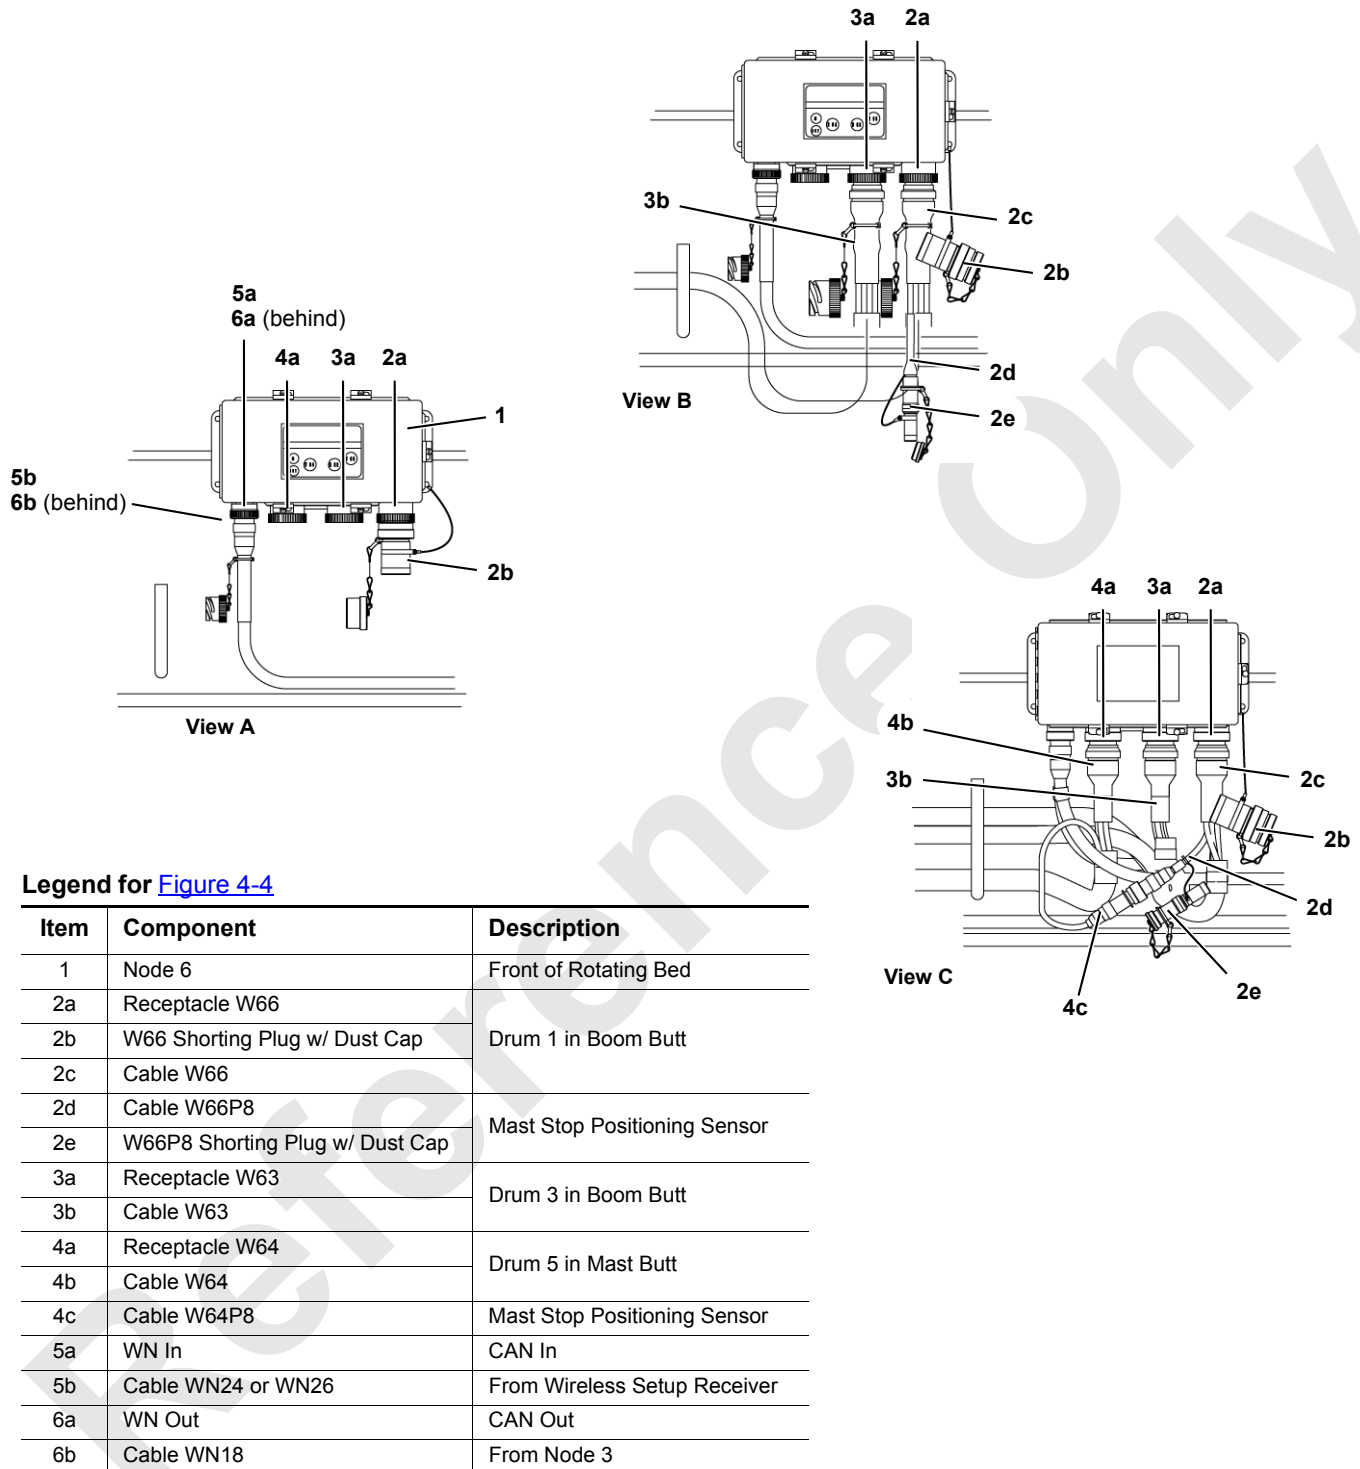

FIGURE 4-4
8. Remove protective caps from five hydraulic hoses (9, View D) on mast butt and from five couplers (10) on rotating bed. **Thoroughly clean couplers.**
**NOTE** For Node-6 electrical connections with Mast Stop Limit Switch, reference Figure 4-4 for cranes with software version M002066 or newer.
See Figure 4-4 for the following procedure.